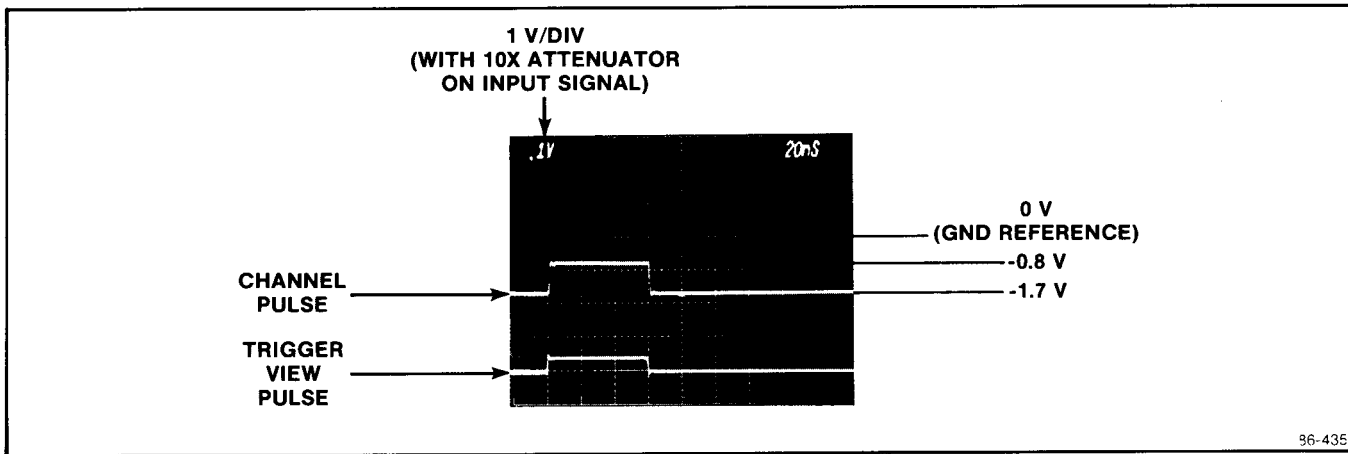

Figure 4-12. Typical trigger view and channel pulse display for checking the trigger filter range.
- j. Set the HF pulse generator High Level Output control to position the top of the pulse 0.8 division below the GND Reference Level. Refer to Figure 4-12.
- k. Set the HF pulse generator Low Level Output control to position the bottom of the pulse 1.7 divisions below the GND Reference Level. Refer to Figure 4-12.
- l. Set the HF pulse generator Variable Pulse Duration control to display a trigger view pulse width of 3 divisions (60 ns). Refer to Figure 4-12.